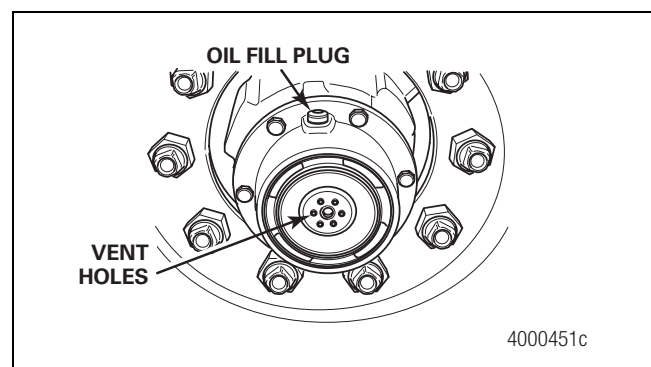
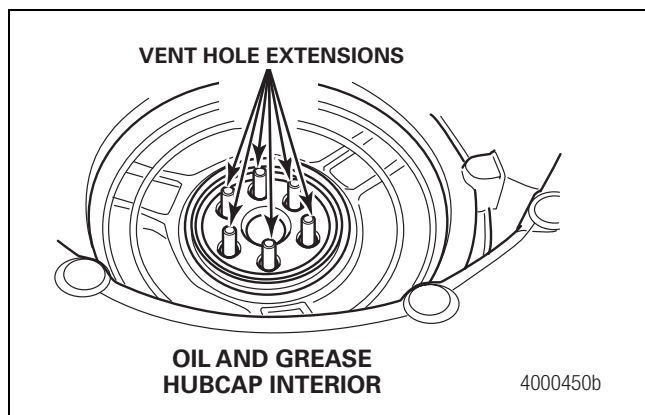

Figure 2.42
Figure 2.43
Oil hubcaps typically feature a side-mounted oil fill plug and vent hole extensions located in the hubcap interior to keep oil from leaking from the hubcap vent holes. Figure 2.42 and Figure 2.43. Grease hubcaps also have six vent holes with vent extensions, however, they typically don't have a side-mounted fill plug. Figure 2.43.
1. Follow the manufacturer's instructions to install the hubcap. For oil-lubricated wheel ends, locate the oil fill plug on the top. Verify that the vent holes in a greased wheel end are not blocked with grease. Blocked vent holes will prevent system air from venting from the wheel end. Figure 2.42.